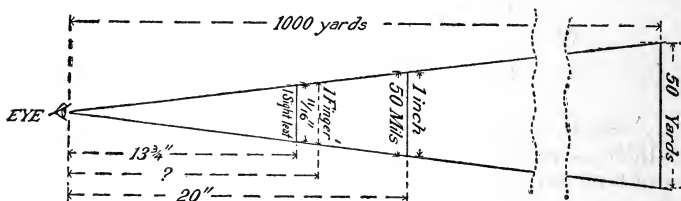

FIG. 29a.—Units of Measure.
**Common Unit of Measure.** (Fig. 29a.) One inch on the Mil scale, held 20" from the eye, or 1 sight leaf at 13 $\frac{3}{4}$ " from the eye, or 1 Finger Breadth at the proper predetermined distance from the eye, each covers 50